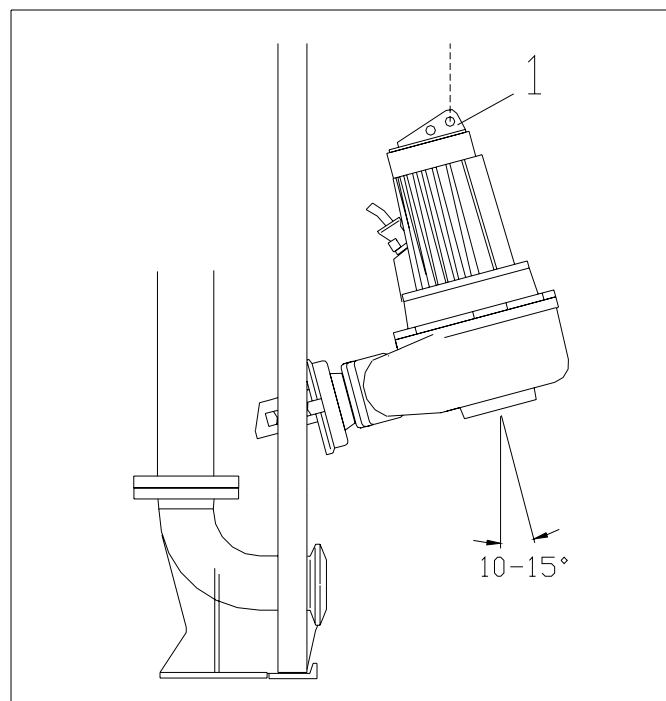

Fig. 6.4
(see Fig. 6.4). If necessary, this angle can be changed by alteration of the position of the lifting hook on the suspension bracket on top of the motor (pos. 1).